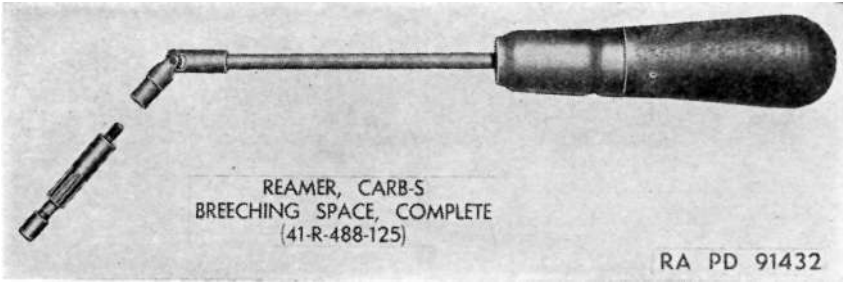

Figure 15. Reamer.
l. REAMER, CARBINE-S., BREECHING SPACE, CARBINE, CAL. .30 COMPLETE 41-R-488-125 (fig. 15). This tool is a reamer connected to a handle by means of a universal joint. The universal joint permits the reamer which is in alignment with the barrel to be rotated by the handle protruding from the receiver at an angle.